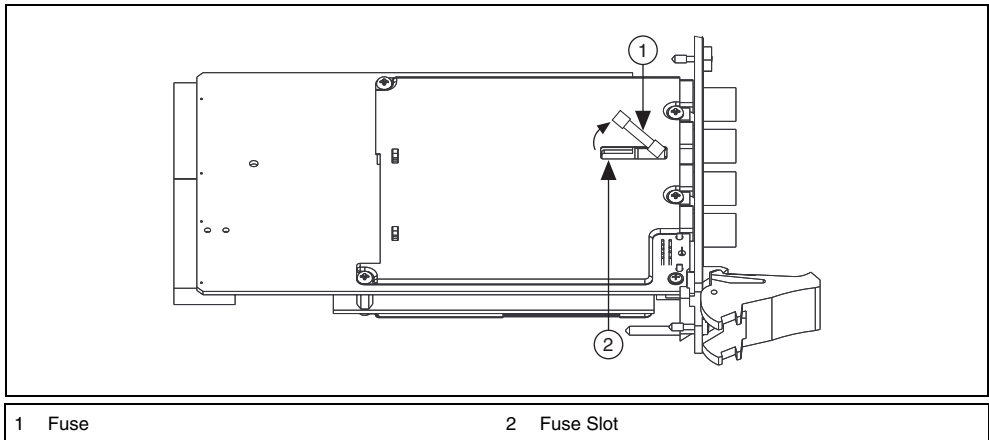

Figure 29. Removing the Fuse from the NI PXI-407x
6. Locate the fuse slot shown in Figure 29.